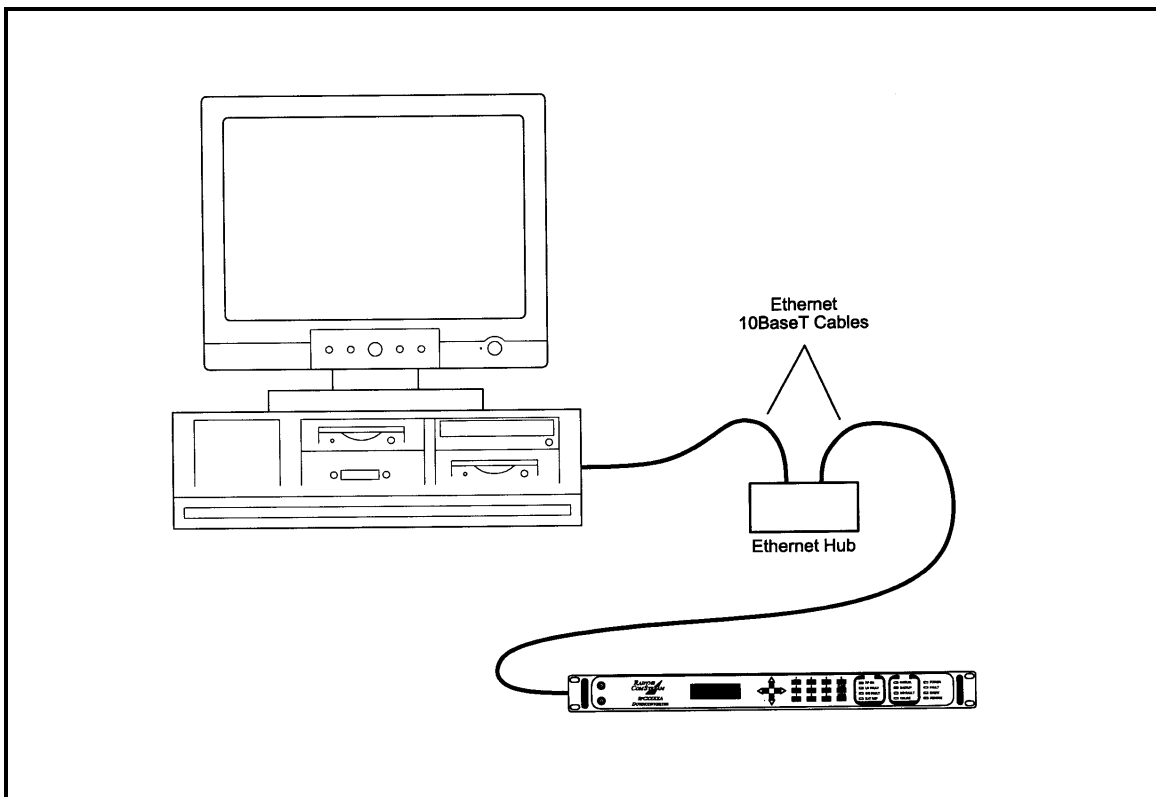

Figure 4-3. Ethernet Connection
1. Connect the computer to the Downconverter Ethernet port (J9) using the RJ-45 to RJ-45 10BaseT Cables via a hub as shown in Figure 4-3.